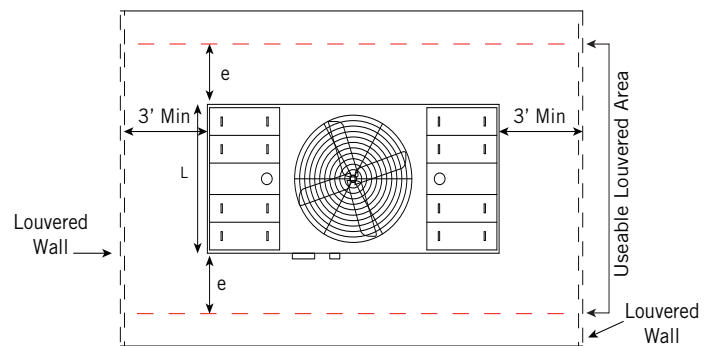

Figure 8. Plan View of Dual Air Intake Unit in Enclosure with Louvered Walls
- Units should be arranged within the enclosure such that the air intake directly faces the louver or slot locations as shown in **Figures 8 and 9**, with a minimum distance of three feet.
"e" - Distance usable louvered area may extend beyond unit length (L) as illustrated in **Figures 8 and 9**. The value for "e" is 1/2 the unit length (L), not to exceed 6'.